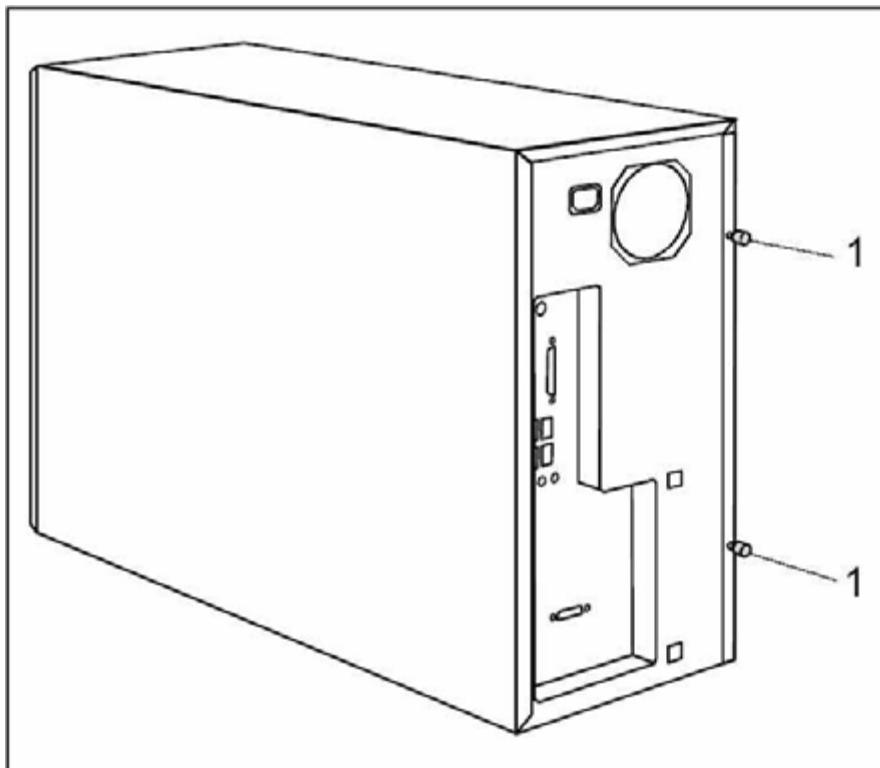

Fig. 48: Remove PC cover\_a M450
4. Unscrew the two knurled screws (1/Fig. 48 / p. 94) on the back of the casing.